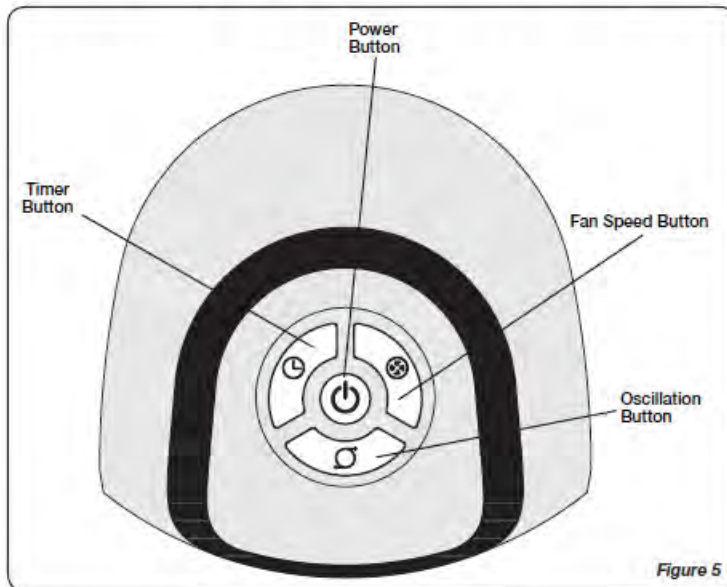
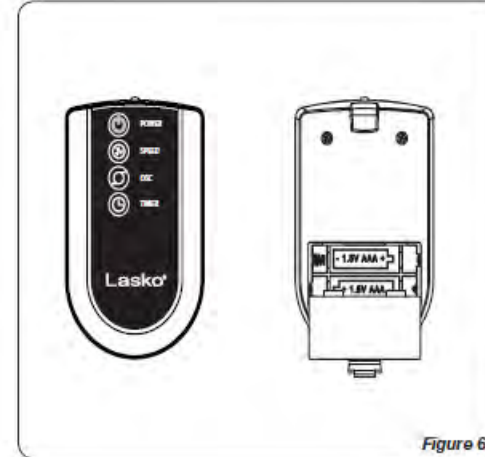

Figure 5
Figure 6
OPERATION (Figures 5 and 6)
This Fan may be operated by the Manual Controls located on top of the unit (as shown in *Figure 5*) or by the Remote Control (shown in *Figure 6*).
REMOTE CONTROL (Figure 6)
1. Install batteries (not supplied) as shown in Figure 6.